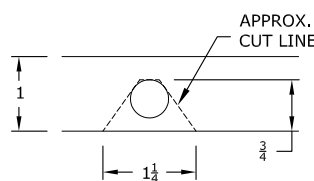

FIGURE A3
6. Mark the 4" hole location. Using a tape measure hooked over the rear edge of the bed (at tailgate end), measure the location for the hole as shown in figure A3. Next, locate the center of the bed by measuring the distance between the wheel wells and dividing by two. The center of the hole will be at the intersection of the center of the bed and the first distance measured.
8. Modify bed flange. Cut a notch in the bed flange just above the frame in the passenger side rear wheel. Locate the 7/16" hole in this flange above the axle and enlarge the hole by removing the metal below the hole so that a notch is created, See figure A3 & A4. This will allow the rear cross member to be installed.